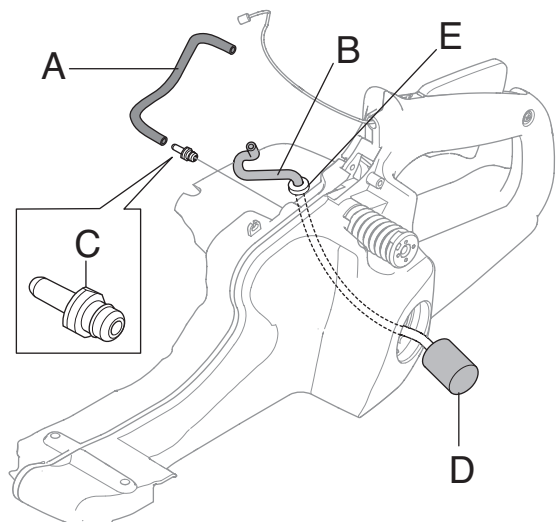

Fig. 3
Use a pair of pliers with smooth jaws and pull up the hose's bushing (E). See fig.3.